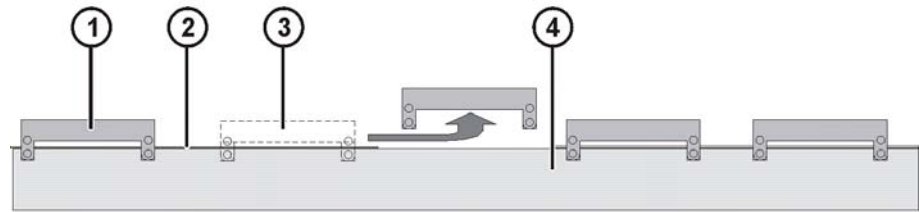

Fig. 11-16: Removal of a carriage (schematic)
6. Move all carriages (>>> Fig. 11-16) away from this track. The carriage to be removed must be situated to the side of the track to be removed.